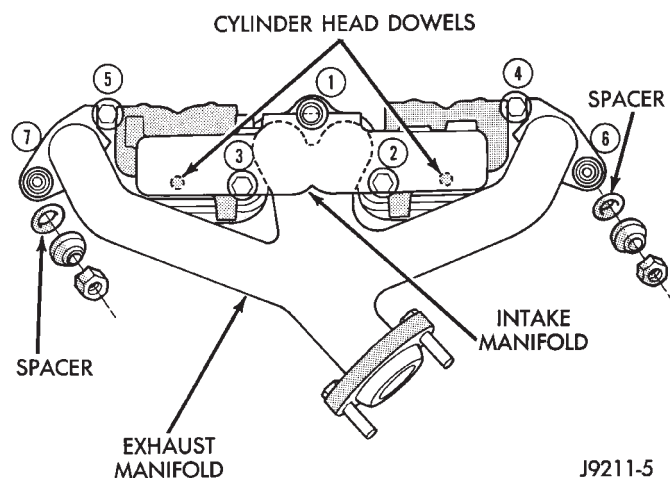

Fig. 11 Intake/Engine Exhaust Manifold Installation—2.5L Engine
- (3) Disconnect the exhaust pipe from the engine exhaust manifold.
- (4) Lower the vehicle.
- (5) Remove the intake manifold. (Refer to procedure in this section).
- (6) Remove fasteners 2 through 5 and remove the intake manifold (Fig. 11).
- (7) Remove fasteners 1, 6 and 7 and remove the engine exhaust manifold (Fig. 11).
- (1) Clean the intake and engine exhaust manifolds and cylinder head mating surfaces. **DO NOT allow foreign material to enter either the intake manifold or the ports in the cylinder head.**
- (2) Install a new intake manifold gasket over the alignment dowels on the cylinder head.
- (3) Install the engine exhaust manifold assembly. **Exhaust manifold must be centrally located over the end studs and spacer (Fig. 11).**
- (4) Tighten bolt No. 1 to 41 N·m (30 ft. lbs.) torque (Fig. 11).
- (5) Install the intake manifold on the cylinder head dowels (Fig. 11).
- (6) Install bolts 2 through 5 (Fig. 11). Tighten these bolts to 31 N·m (23 ft. lbs.) torque.
- (7) Install new engine exhaust manifold spacers over the engine exhaust manifold mounting studs in the cylinder head (Fig. 11).
- (8) Tighten nuts 6 and 7 to 31 N·m (23 ft. lbs.) torque (Fig. 11).
- (9) Install all components to the intake manifold.
- (10) Raise the vehicle.
- (11) Connect the exhaust pipe to the engine exhaust manifold. Tighten the bolts to 31 N·m (23 ft. lbs.) torque.
- (12) Lower the vehicle.
- (13) Connect the battery negative cable.
- (14) Start the engine and check for leaks.